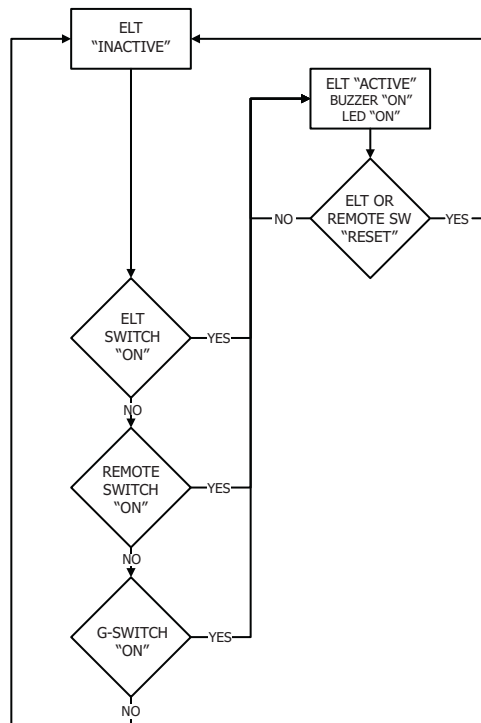

Figure 7 ELT Operational Flow Diagram
- (1) See Figure 7 ELT Operational Flow Diagram.